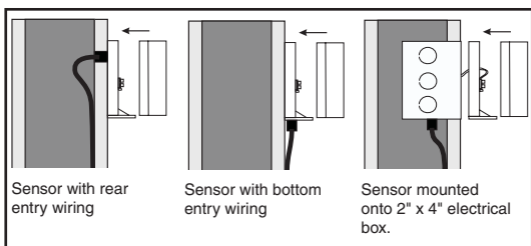

Figure 4 - Mounting the Outdoor Air Temperature Sensor (OATS)
- The OATS can either be mounted directly onto a wall or in a 2" x 4" electrical box. When the OATS is wall mounted, the wiring should enter through the back or bottom of the enclosure. **Do not mount the OATS with the conduit knockout facing upwards as rain could enter the enclosure and damage the sensor (Fig. 4).**